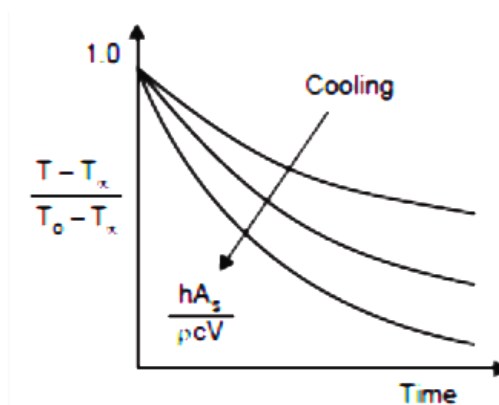

Fig. 4.3 Change in temperature of body with respect to time
- The body temperature falls or rises exponentially with time and the rate depends on the parameter $(hA_s/\rho Vc)$. Theoretically the body takes infinite time to approach the temperature of surroundings and thus attain the steady state conditions. However the difference between T and T_a becomes extremely small after a short time and beyond that period the body temperature becomes practically equal to the ambient temperature. The change in temperature of a body with respect to time is shown in figure 4.3 for both cases (Heating and cooling)